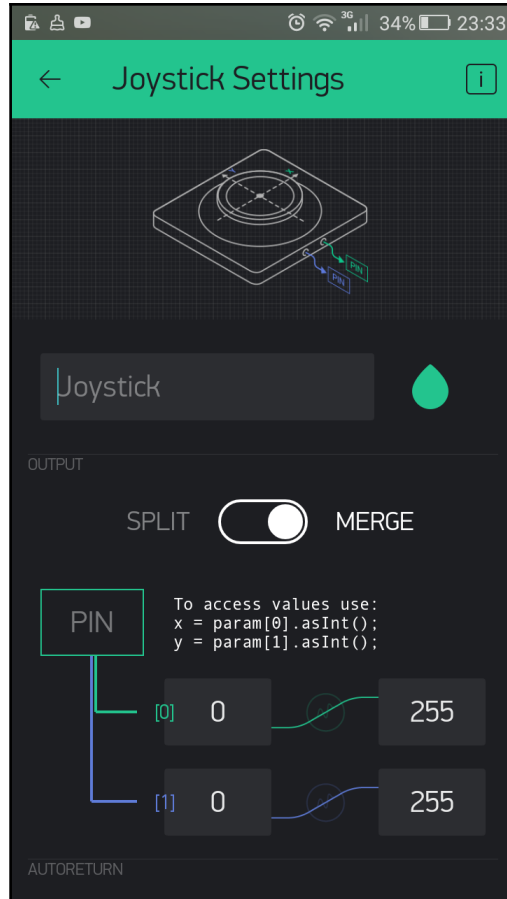

Figure 4.6: Setting the OUTPUT to MERGE mode
- The **OUTPUT** of the joystick should be set to the **MERGE** mode (Figure 4.6). In the **MERGE** mode, the joystick sends one message, consisting of an array of values, to the microcontroller hardware so that you can parse the values on the hardware: